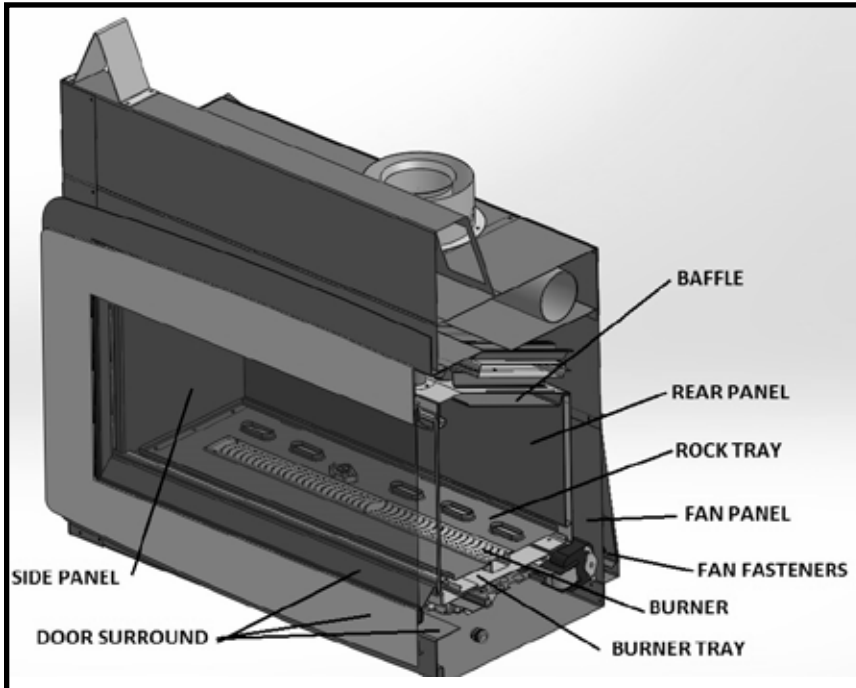

Figure 39: Fan installation and removal.
1. Remove door surround and glass frame with the glass as seen in Figure 39.
1. Remove fan panel at the rear side of the fireplace as seen in Figure 39.